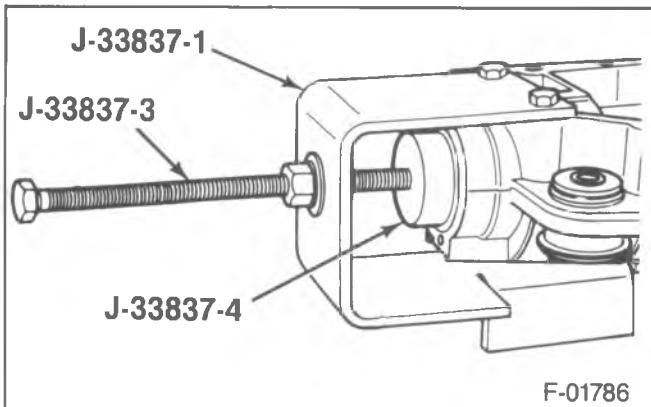

Figure 77—Installing the Outer Bearing Cup
- 8. Bearing cup (41) into the case using J-33837-1, J-33837-3, and J-33837-4 (figure 77).